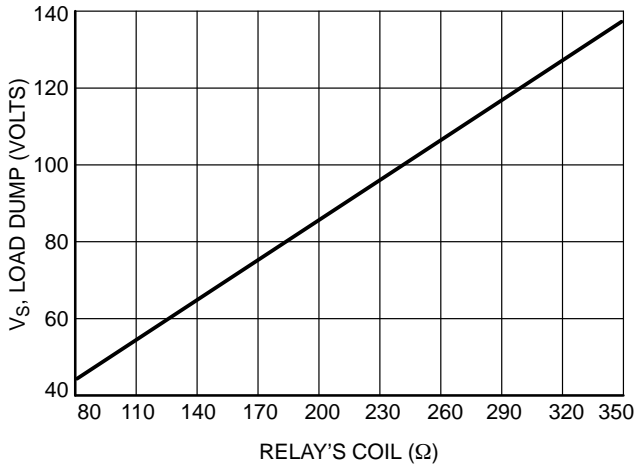

Figure 4. Load Dump Capability versus Relay's Coil dc Resistance
4. For relay's coils/inductive loads higher than 80 Ω, see Figure 4.